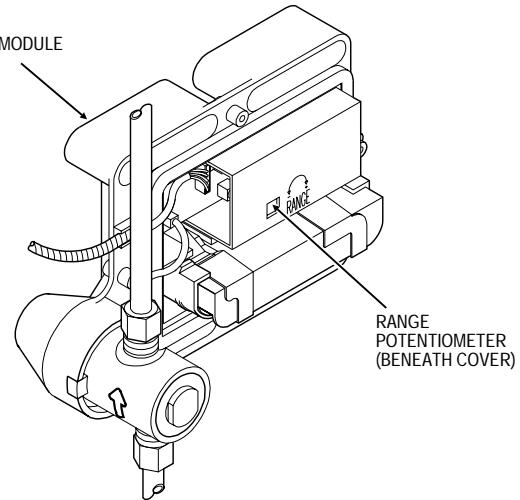

Figure 7
Step 9 – Range Adjustment (Figure 7)
The Range Potentiometer is located in the Control Module shown in Figure 7.